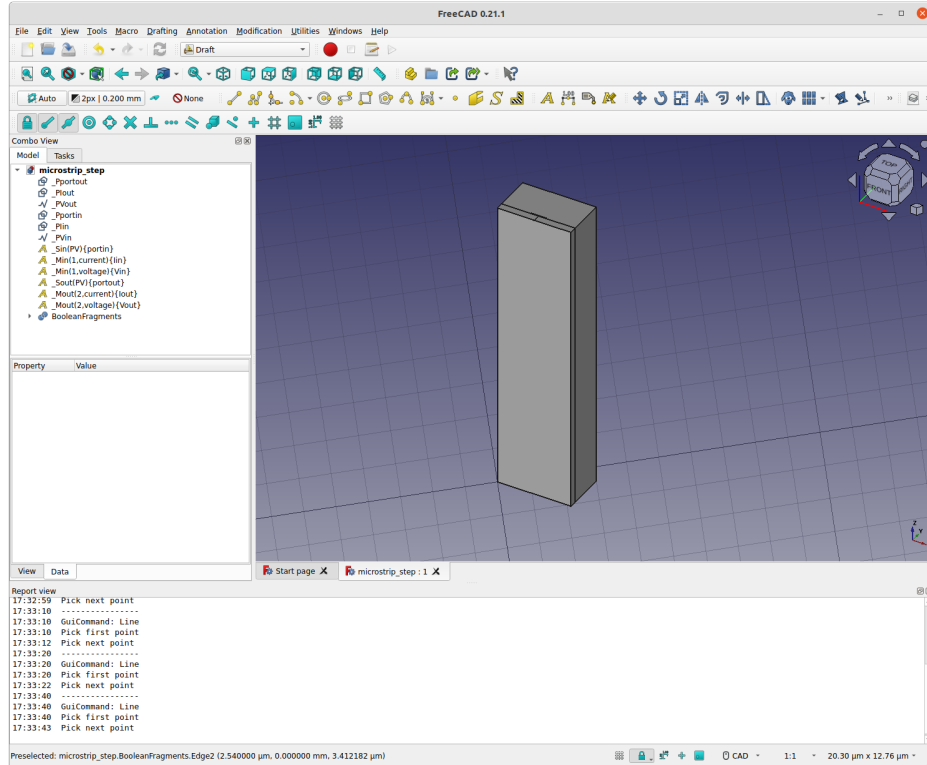

Figure 13: Screenshot of the completed 3D setup.
- A screen shot of the completed drawing with successfully export ports description file is shown in Fig. 13.